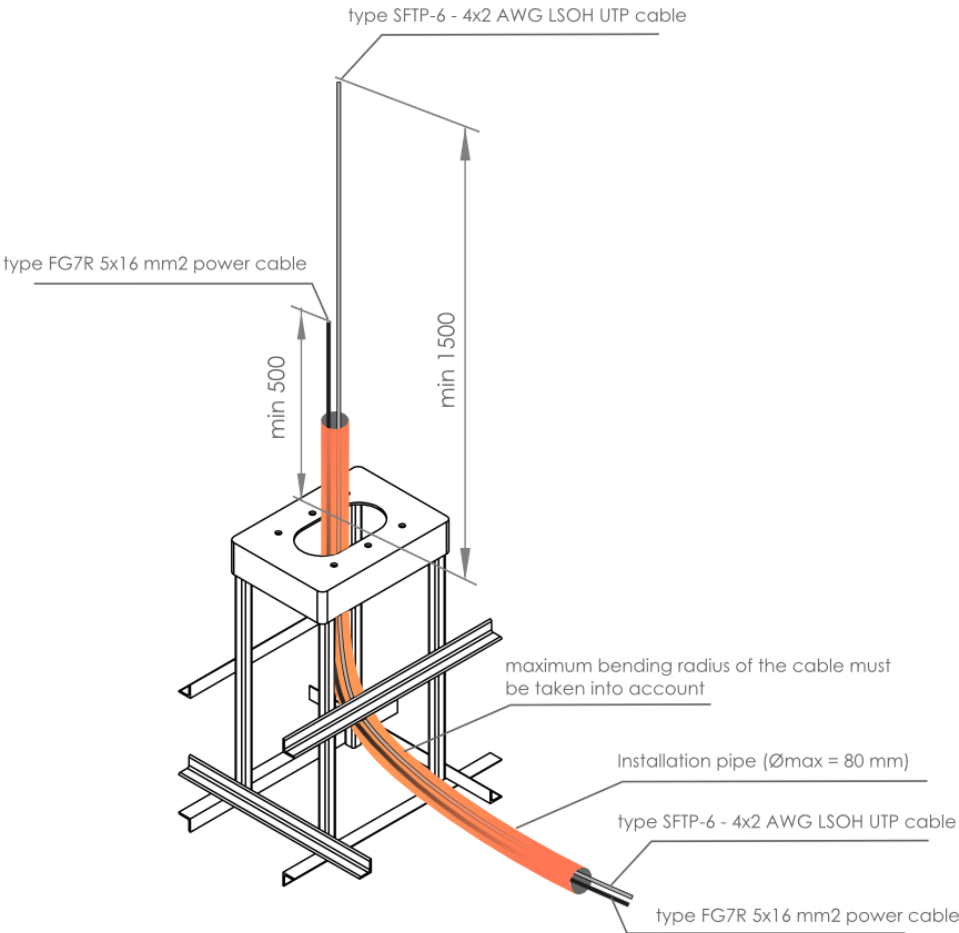

Figure 15: Placing of installation pipe and insertion of cables
The upper plate of the foundation has an opening for the insertion of supply cables. During installation, a pipe with a sufficient bending radius is placed into the foundation (see Figure 15). The pipe is later used for the insertion and connection of supply cables.
1. According to the alignment of the power cable, the location of the installation pipe is determined. The pipe is placed into the foundation and used to connect the charging station to the network (see Figure 15). It is recommended that the installation pipe ends on the lateral side of the foundation and not beneath the foundation. The bending radius of the power cables must be taken into account when placing the installation pipe. The dimension of the pipe depends on the number and diameter of power cables which will be inserted into the pipe. In the case of clustering of charging stations in the same area, it must be taken into account that two power cables will be inserted into the installation pipe. The size of the opening at the top of foundation enables the installation of two installation pipes when the clustering of charging stations is executed in the opposite direction to the location of the current connection,